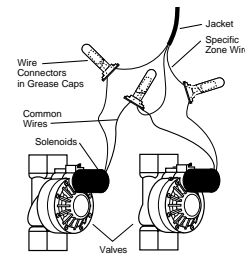

Figure 16: Wiring Valves
- Each valve has two wires. One wire is to be connected as the common. The common wires for all the valves can be connected together to one common wire going to the timer. The other valve wire is to be connected to the specific station wire that will control that valve [See Figure 16].